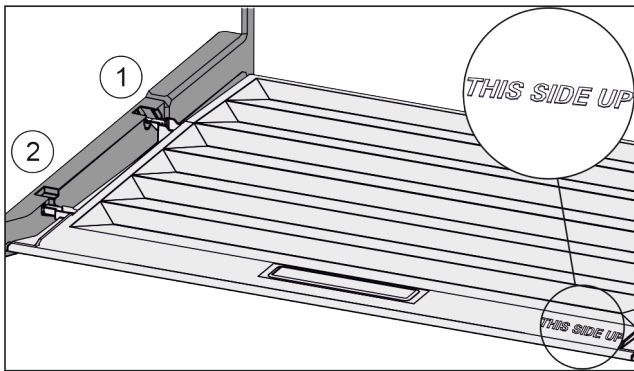

Fig. 114
- ▶ Insert the lip of the cover over the opening of the rear bracket Fig. 114 (1) and click into place Fig. 114 (2).